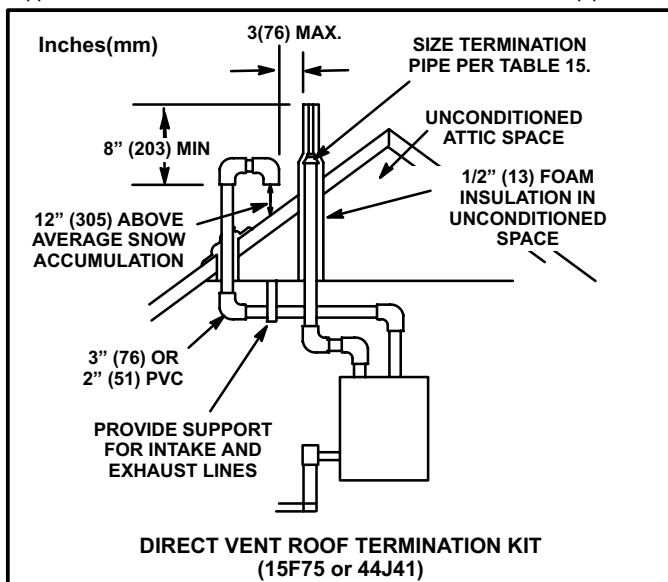

FIGURE 27
Intake and exhaust pipes may be routed either horizontally through an outside wall or vertically through the roof. In attic or closet installations, vertical termination through the roof is preferred. Figures 27 through 35 show typical terminations.
4. On roof terminations, the intake piping should terminate straight down using two 90° elbows (See figure 27).